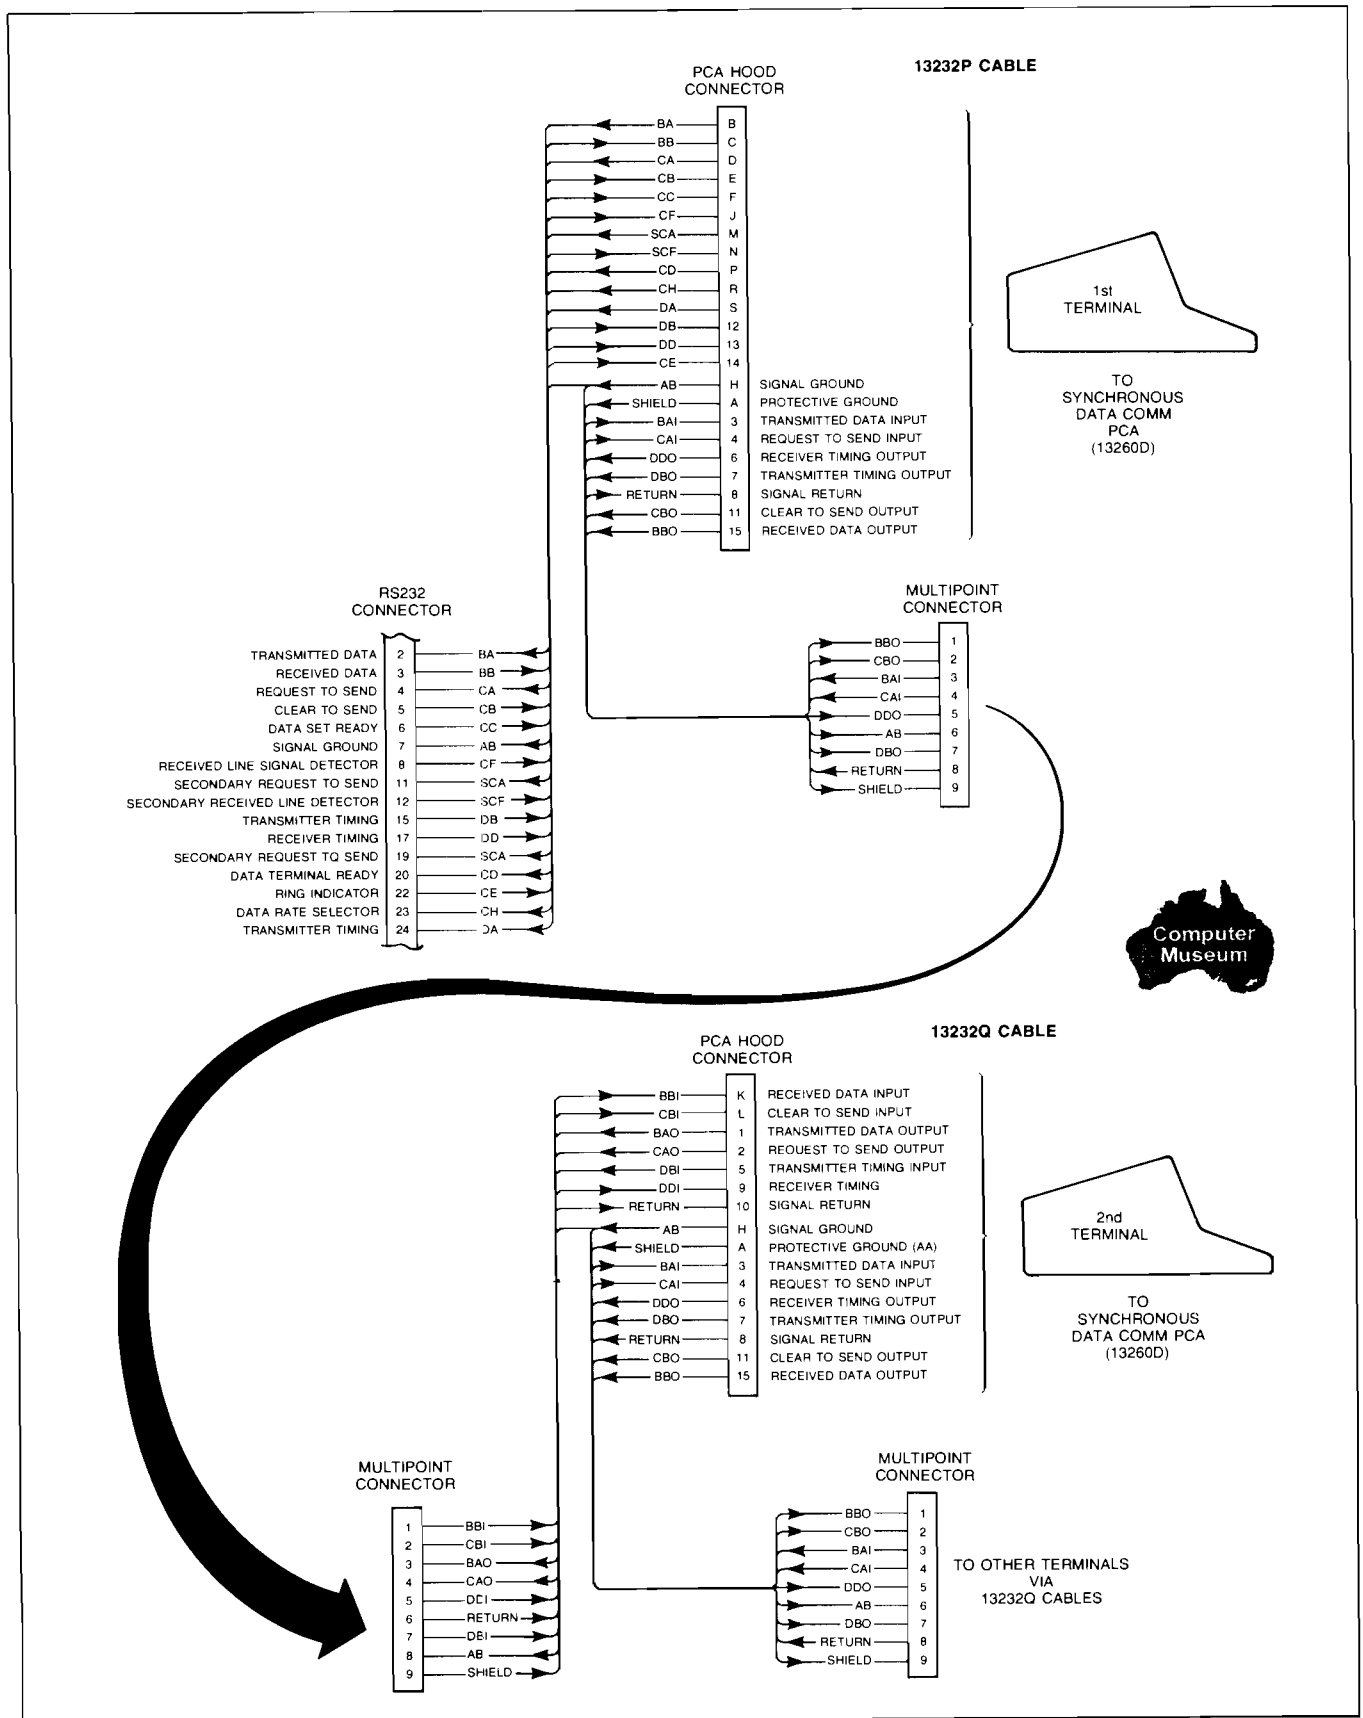

Figure 1-28. Synchronous Multipoint Cabling
For synchronous multipoint cabling, refer to figure 1-28 and perform the following:
3. Connect the terminal(s) as shown in figure 1-28.